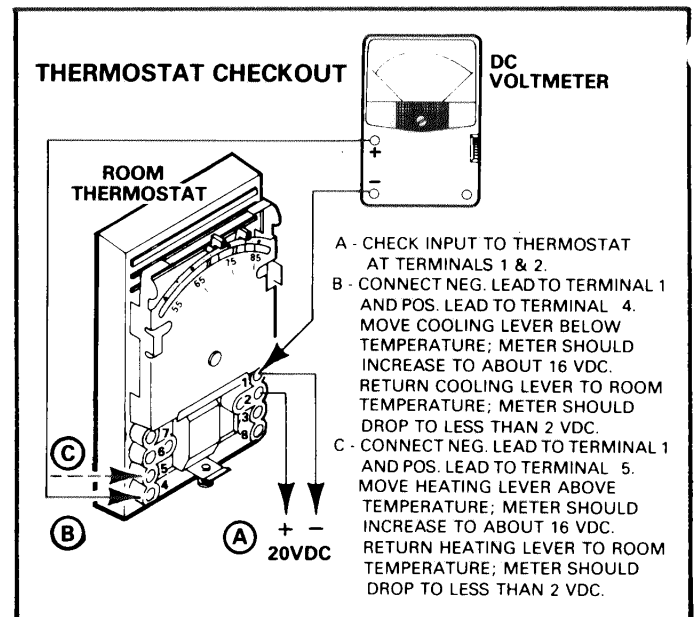

FIGURE 21
- 2 - Check for power to the room sensor. Connect negative (-) lead to terminal 1 and the positive (+) lead to terminal 2. Meter should read 20 VDC. See Figure 21.